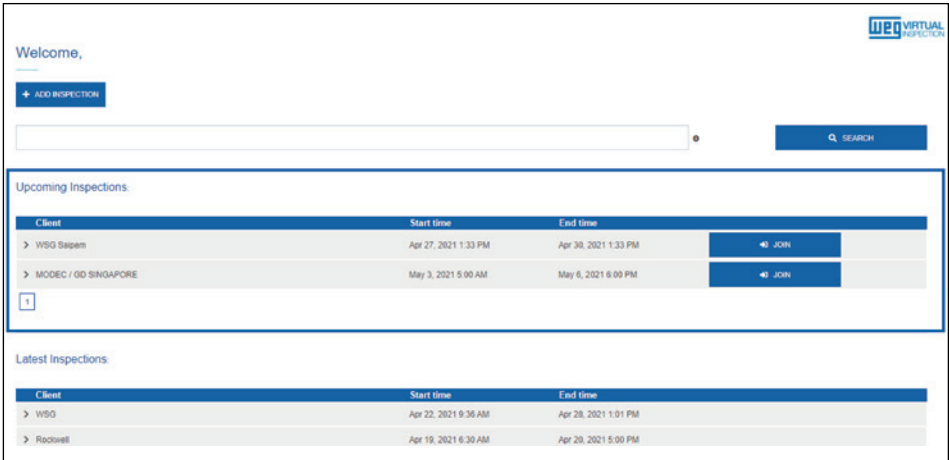

Figure 6 - Upcoming inspections released
- You can check the upcoming inspections released for your login as shown in the Figure 6.